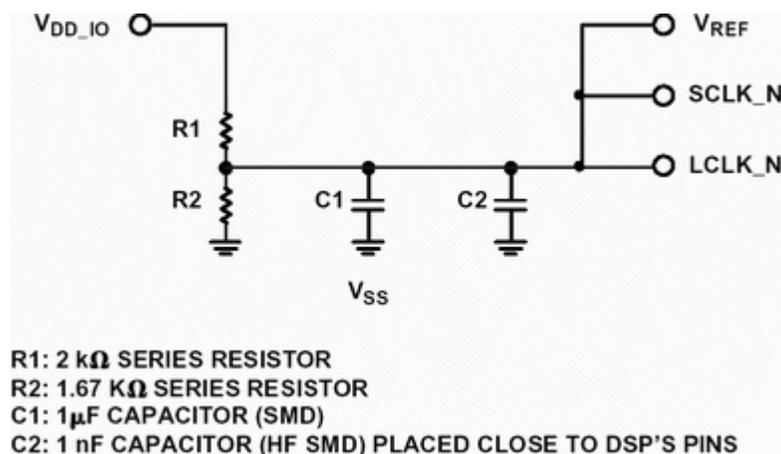

Figure 7. V_{REF} , SCLKN and LCLKN filtering scheme
1. Connect VREF, LCLK_N, and SCLK_N to a reference voltage of $1.5V \pm 100mV$. Figure 7 shows a possible filtering circuit.